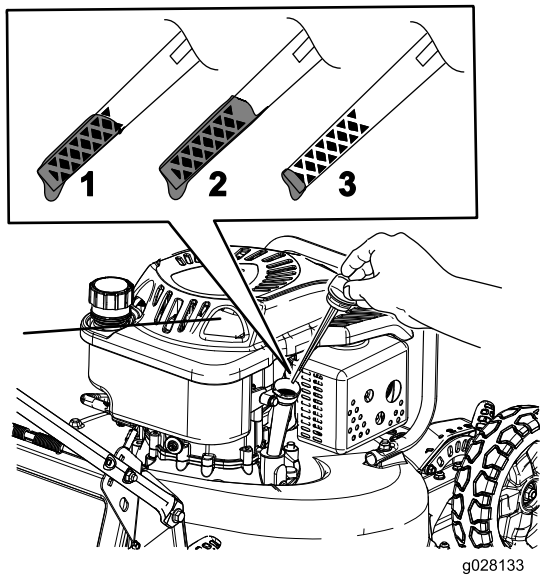

Figure 21
8. Remove the dipstick and read the oil level on the dipstick (Figure 21).